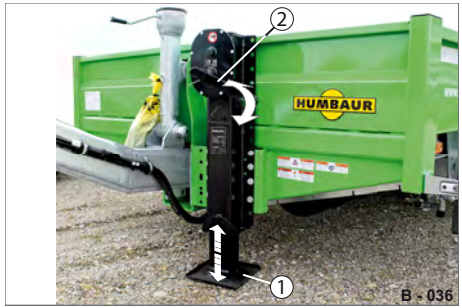

Fig. 35 Height equalisation (HS 89xx,10xx)
► Crank the foot of the geared support winch (Fig. 35/1) up or down using the crank (Fig. 35/2).